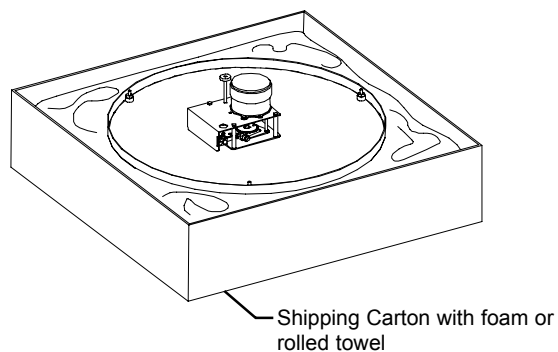

Figure 2
STEP 3: Insert Clock face down in foam packing material or form a towel into 'doughnut' shape to support clock glass and case face down on a flat surface (Figure 2).